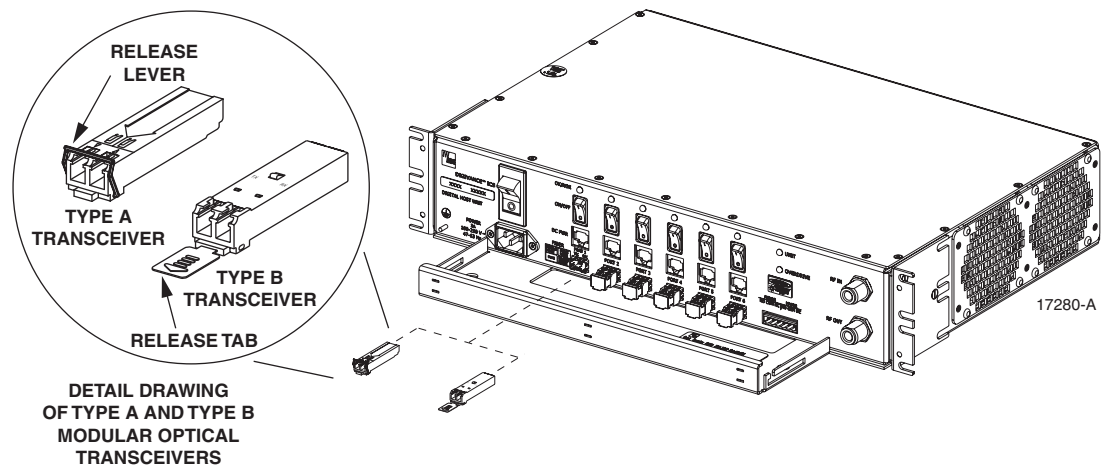

Figure 33. DHU or DEU Optical Transceiver Installation
- 8. Remove the optical transceiver from the anti-static packaging and orient for installation as shown in Figure 33.
- **Note:** Two types of optical transceivers, type A and type B, are available. Both types provide the same functionality. On the type A optical transceiver, the release lever (see Figure 33) must be closed for installation.